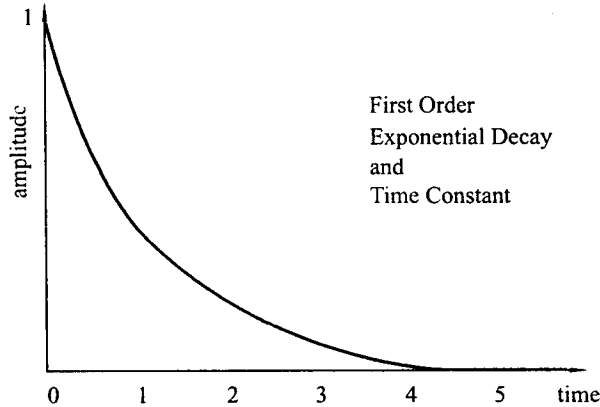

Figure 1.3 First order exponential decay
Physically, the exponential decay shown in Figure 1.3 signifies that the energy stored in the capacitor at  $t=0$  is dissipated by the resistor at a rate determined by the product of the circuit equivalent resistance (viewed from the capacitor) and the capacitance ( $R \times C$ ).[10] This product is called the capacitor circuit time constant.
10. Physically, the exponential decay shown in Figure 1.3 signifies that the energy stored in the capacitor at  $t=0$  is dissipated by the resistor at a rate determined by the product of the circuit equivalent resistance (viewed from the capacitor) and the capacitance ( $R \times C$ ).
实际上, 图 1.3 中的衰减指数表示从  $t=0$  时刻开始, 电容存储的能量以一定的速率被电阻消耗, 能量消耗的速率由电路的等效电阻和电容值决定。